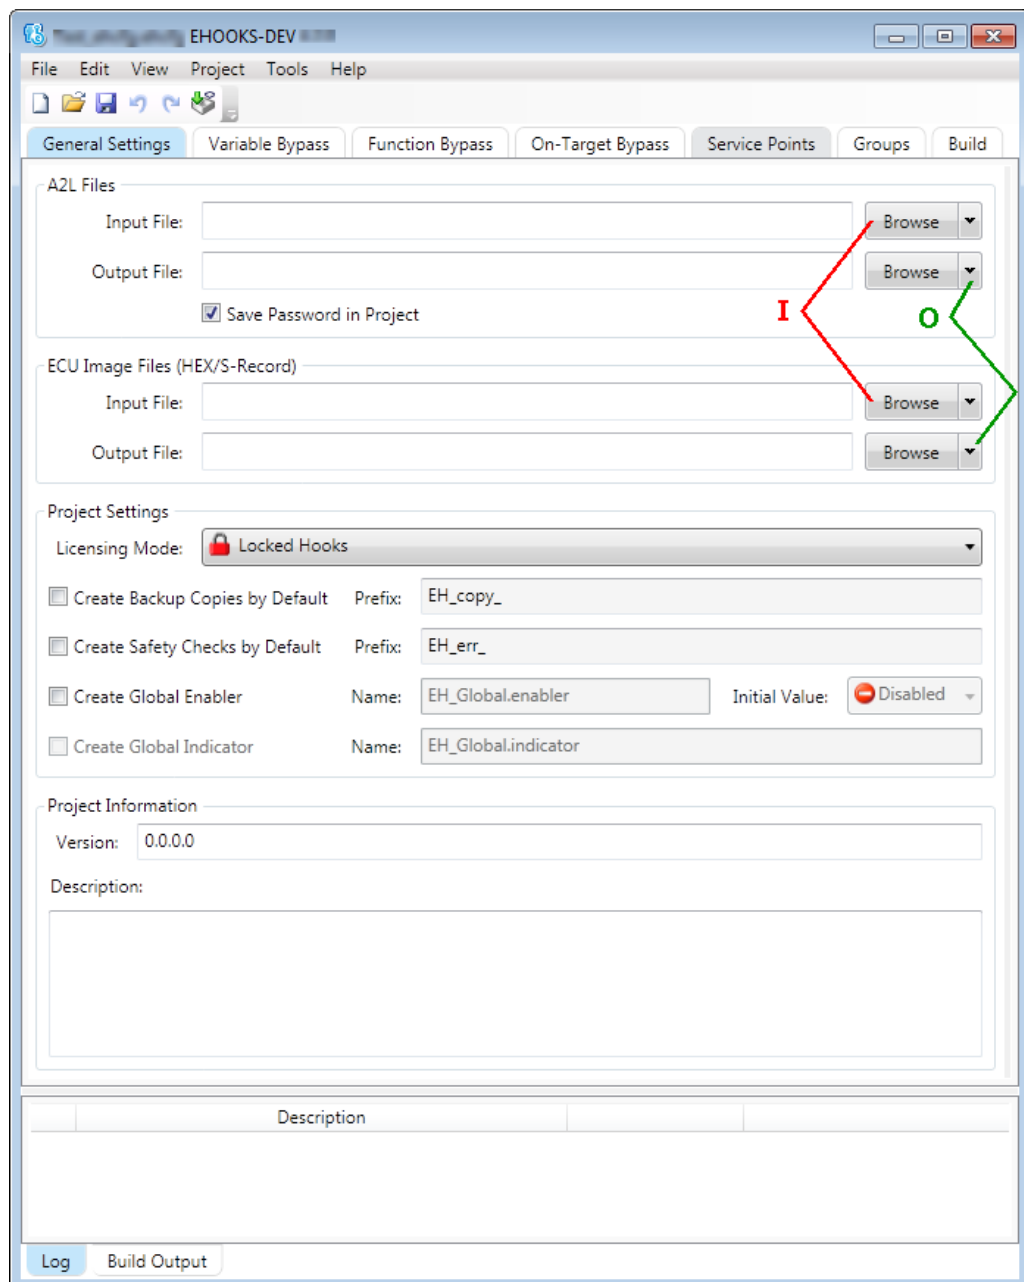

Figure 3.8: EHOOKS-DEV window: Choosing EHOOKS files (I: input files, O: output files)
2. In the EHOOKS-DEV window, use the first and third **Browse** buttons (I in Figure 3.8 on the previous page) to select input \*.a2l and \*.hex files.
5. In the EHOOKS-DEV window, use the second and fourth **Browse** buttons (O in Figure 3.8 on the previous page) to enter output \*.a2l and \*.hex files.